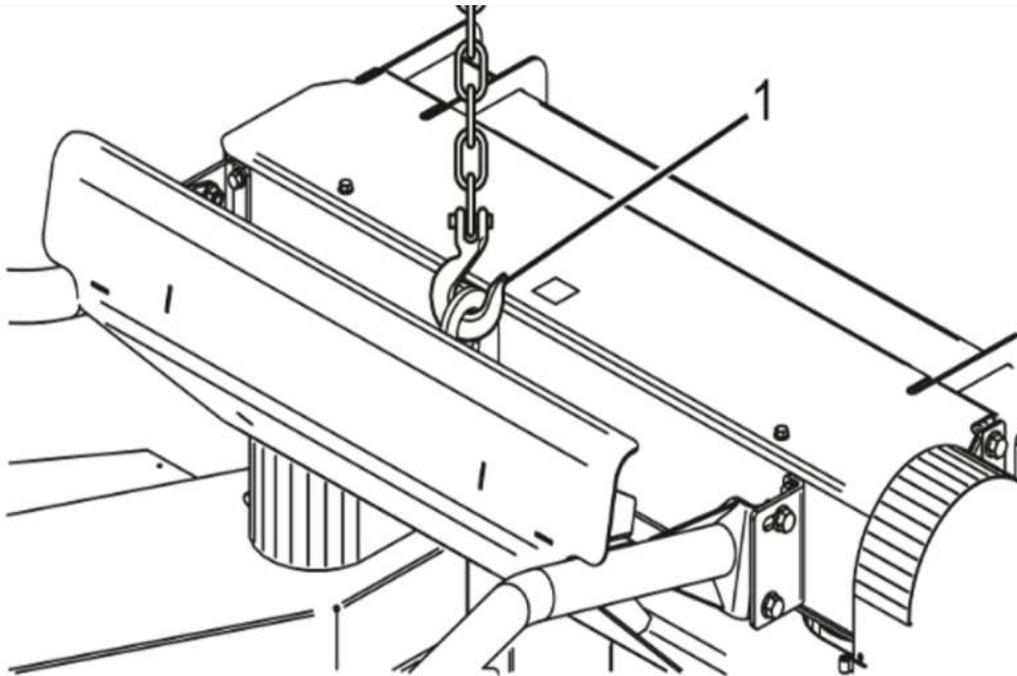

Figure 54 Header lift point
Ensure the harvester and header rest on a flat and level surface. The headers are equipped with a single point lift (item 1, Figure 54 Header lift point) allowing the use of a lift chain (1350kg -3000lbs min capacity) and hook for easy maneuvering.